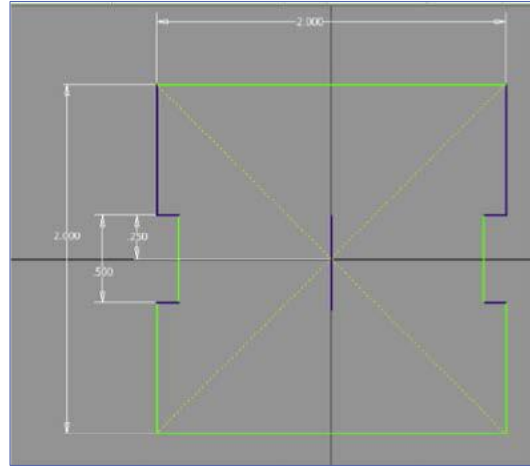

Figure 10
- Using the Mirror command, select the parts you want to mirror and then select the mirror line. The end result will be that the tab ends up on the other side. Trim out the excess to make it look like Figure 10.